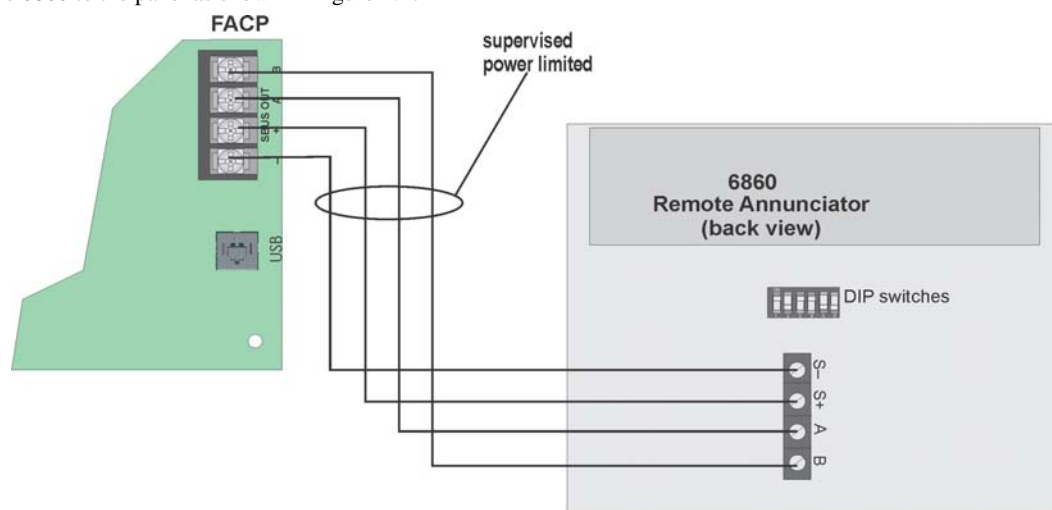

**Figure 4.26 Installing Trim Ring**
4. Place the trim ring over the back box as shown in Figure 4.26.